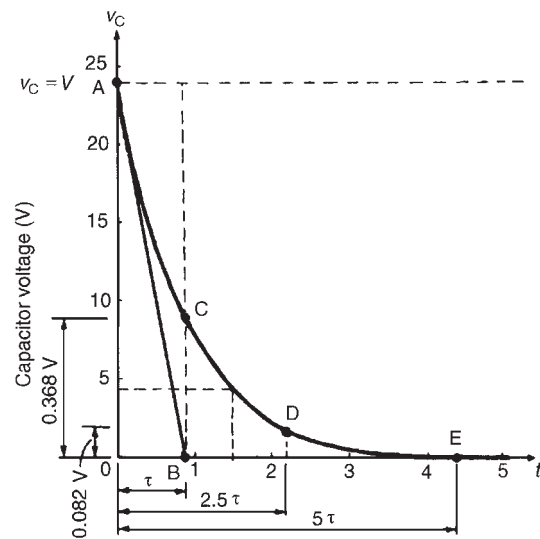

Figure 18.5
- (a) The exponential decay of capacitor voltage is from 24 V to 0 V in a time equal to five time constants, i.e. $5 \times 0.88 = 4.4$ s. With reference to Fig. 18.5, to construct the decay curve:
- (vi) the value of the transient after a time equal to two and a half time constants is 0.082 of the initial value, i.e. $0.082 \times 24 = 1.97$ V, shown as point D in Fig. 18.5,
- (b) The voltage drop across the resistor is equal to the capacitor voltage when a capacitor is discharging through a resistor, thus the resistor voltage/time characteristic is identical to that shown in Fig. 18.5 Since $v_R = v_C$, then at 1.5 seconds after decay has started, $v_R \approx 4.4$ V (see (vii) above).